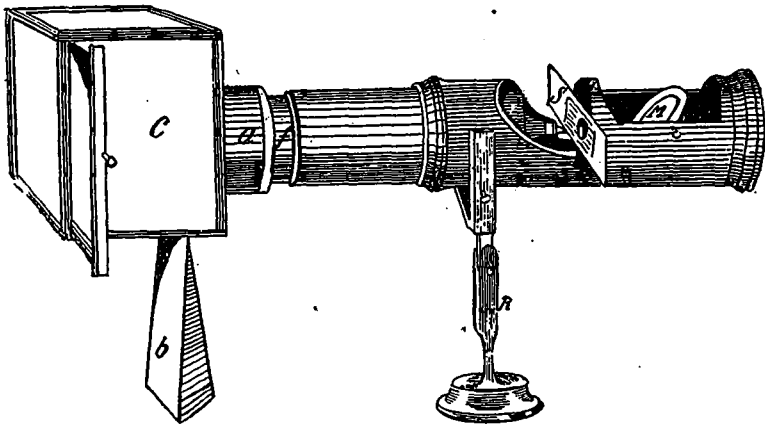

FIG. 1.
In fig. 1 is shown the complete apparatus exactly as used by myself, the camera (C) being constructed as described at page 192 in the August number of *The Photogram*. The adapter (A), consisting of a stout paper tube fitted into a circular opening at the front of the camera, is securely attached to the sliding tube (F) by neatly wrapping a long narrow slip of paper around the latter